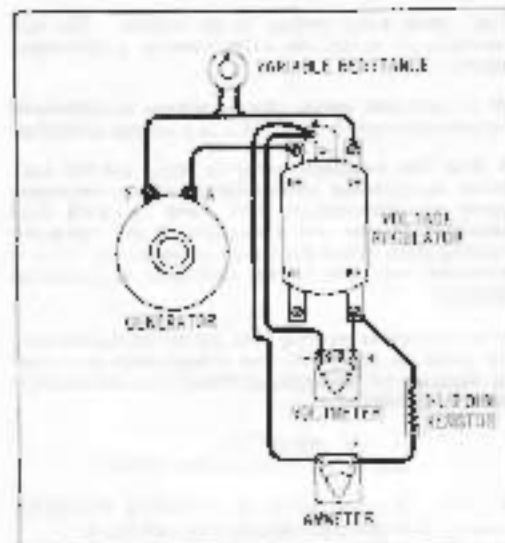

Figure 51-8.
1. Make same connections as used in make previous Test B, except move positive voltmeter lead to resistor "D" terminal. See Fig. 51-8.
B. TESTER CONNECTIONS (See Fig. 51-8)
Use same tester connections as previous Test C. (Fig. 51-8)